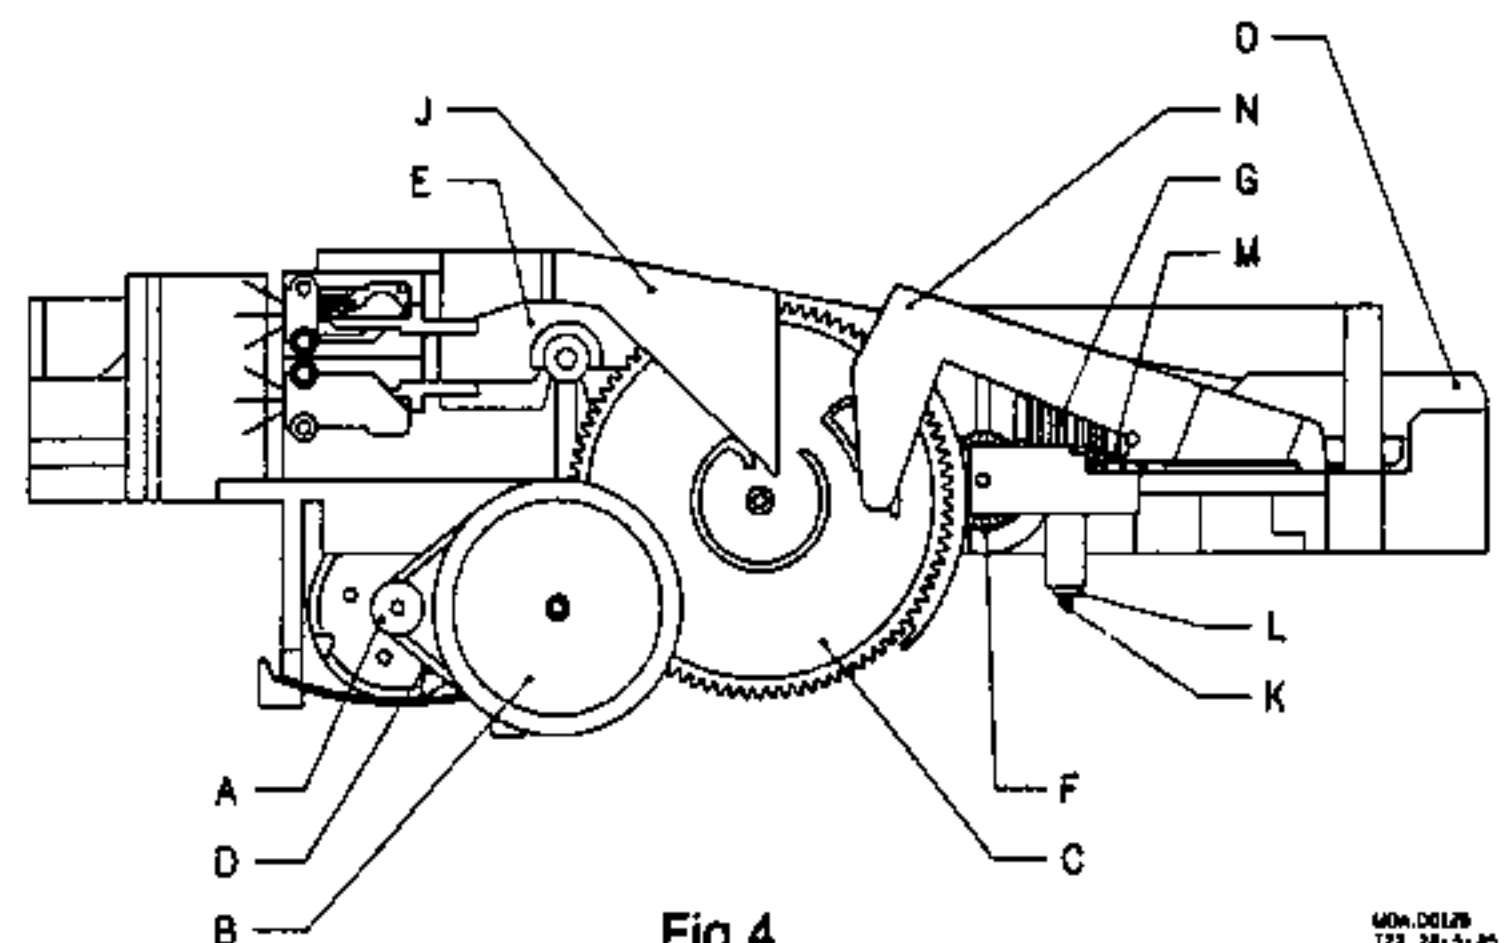
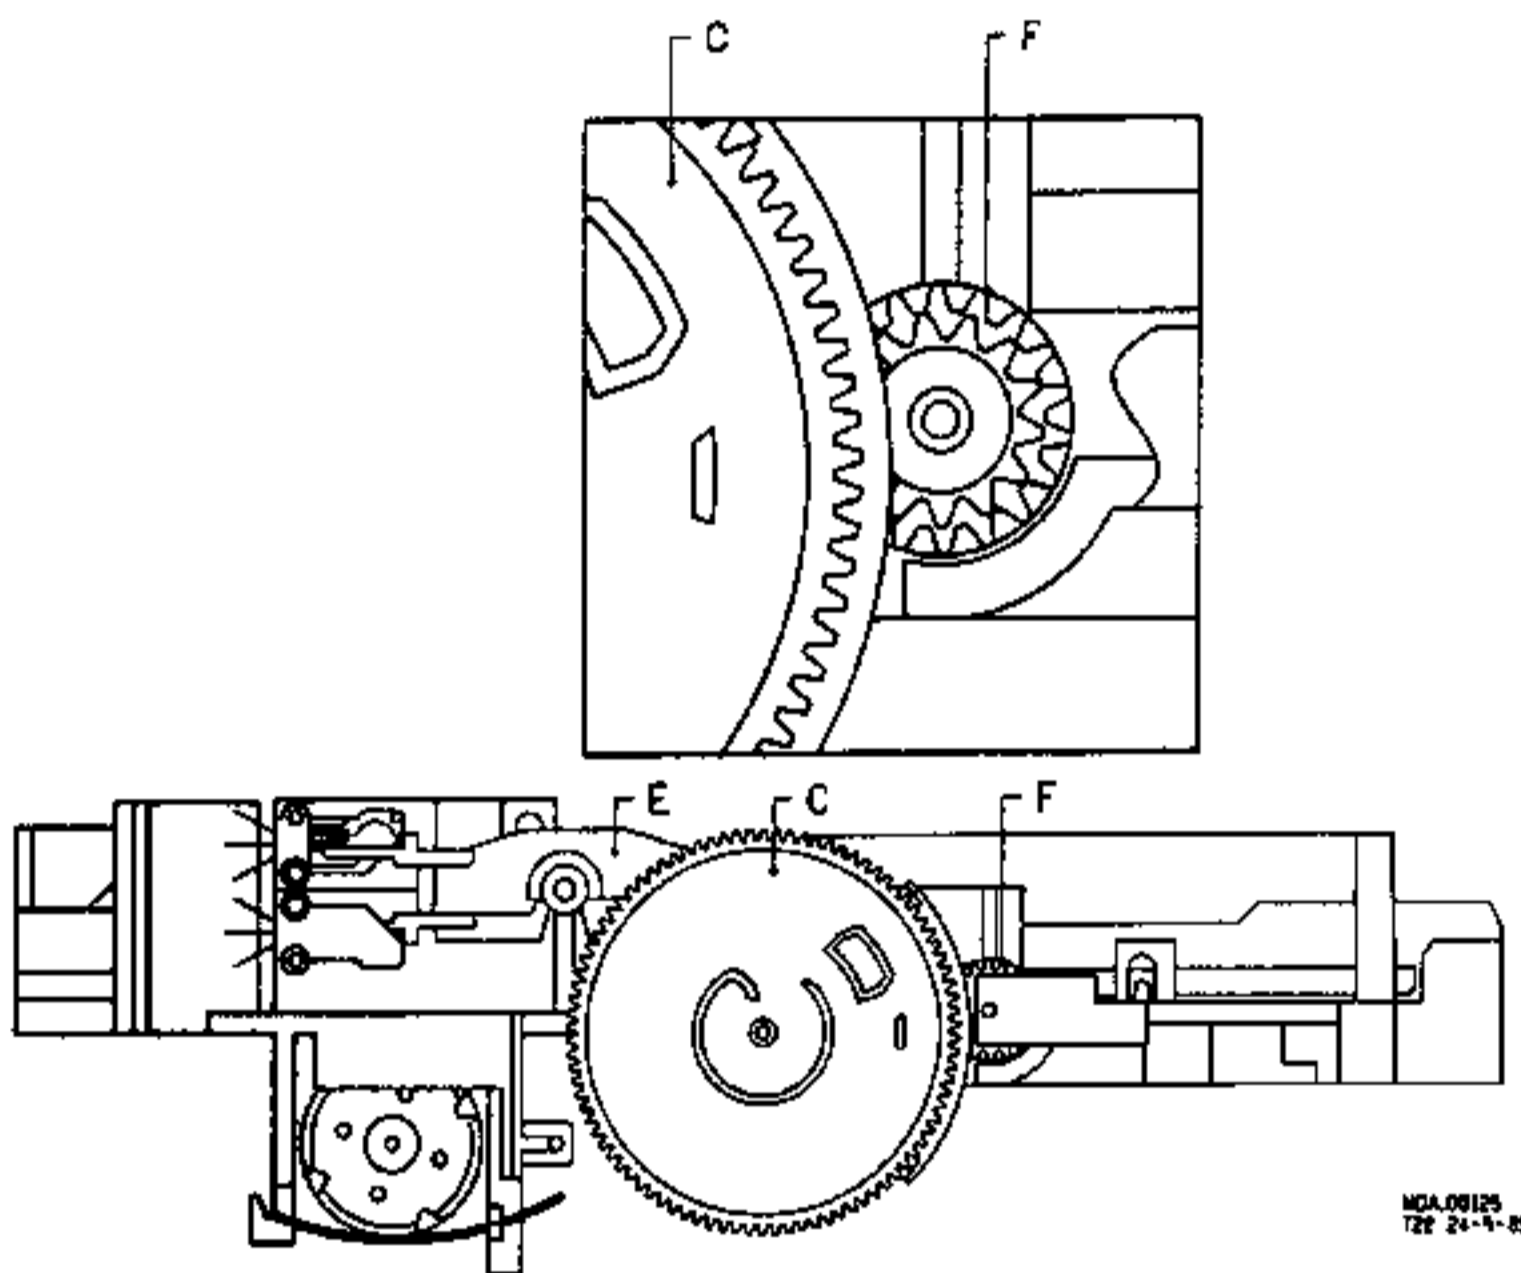

Fig.4
Fig. 5
- Ensure that the aperture in gearwheel F is vertical (see Fig. 4) and apply cog wheel C in the way described in Fig. 5.
Use 7th order filter 4822 395 30204 (see Fig. 5) to measure: